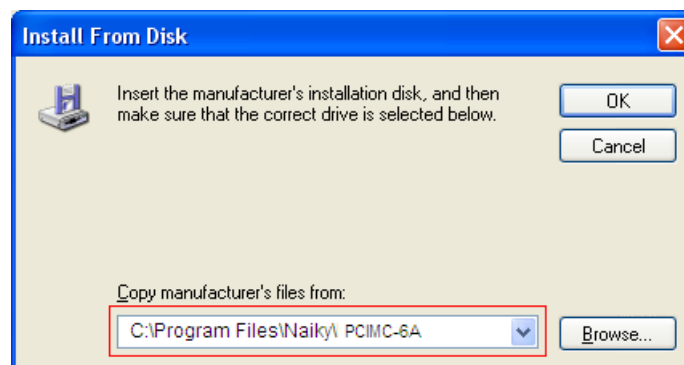

Fig. 2-6 Target file directory confirmation
- 7) After hardware driver being correctly chosen, the interface jumps to the previous dialog box where the target file directory will be displayed under item “Copy manufacturer’s file from:”, as shown in Fig. 2-6.